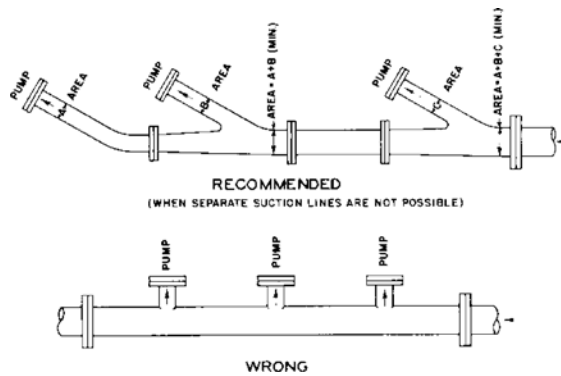

Figure 17:
- Separate suction lines should be used when more than one pump is operating from the same source of supply. If it is not possible to have separate lines, piping arrangement shown in Figure 17: on page 18 is recommended.